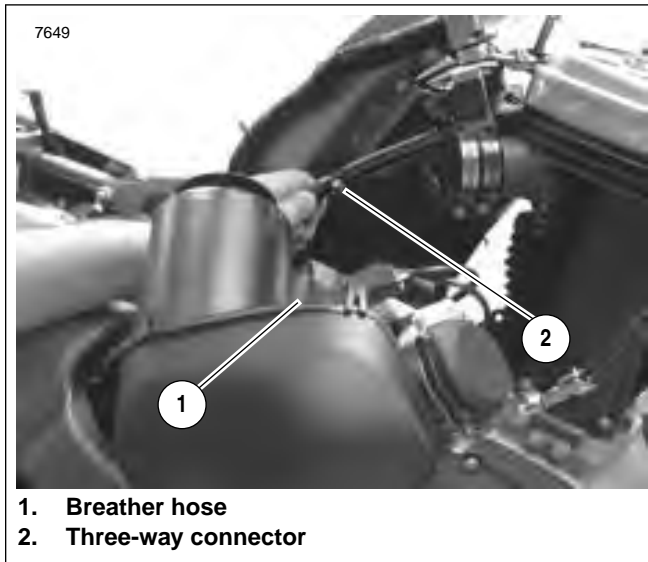

**Figure 3-34. Auto-Enricher Plug**
23. See Figure 3-34. Connect auto-enricher plug.